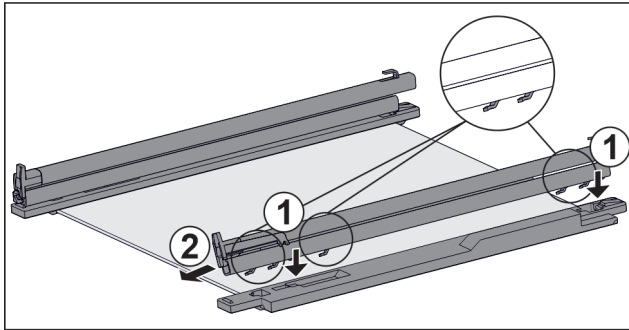

Fig. 101 Glass shelf with rails and retaining parts
- ▶ Place rail hooks onto the openings of the **left** retaining part. Fig. 101 (1)
- ▶ Push rail forwards. Fig. 101 (2)
- ▶ Place rail hooks onto the openings of the **right** retaining part. Fig. 101 (1)